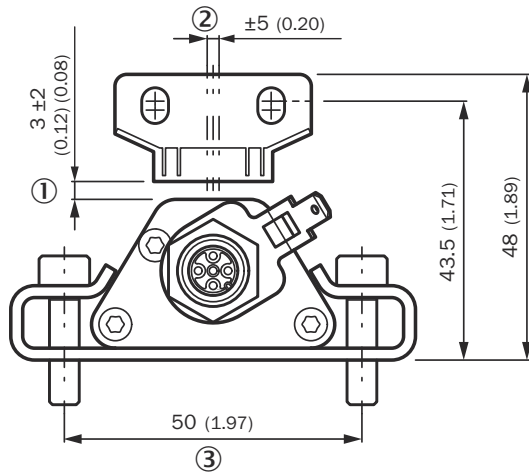
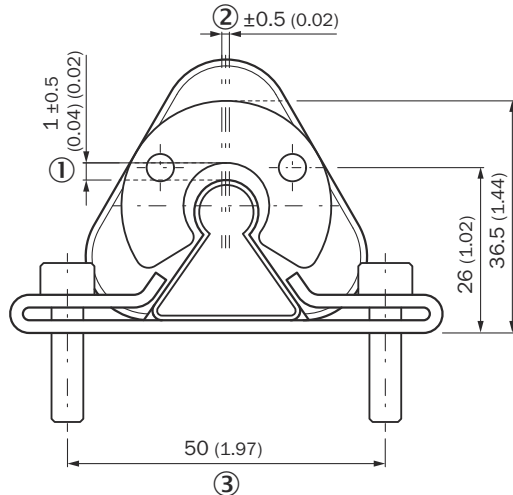
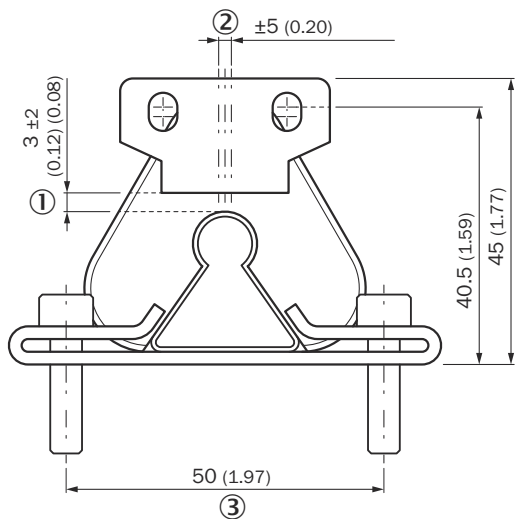

Figure 5: Dimensions and distances for MAG-B-180-xx position magnet on DAX® Low Profile
Figure 6: Dimensions and distances for MAG-B-180-xx position magnet on DAX® Slider
Figure 7: Dimensions and distances for MAG-B-180-xx position magnet on DAX® Slider
- ▶ The following values must be observed for the nominal distance ① between the position magnets and linear encoder and for the center offset ② (see figure 5, page 10, see figure 6, page 10 and see figure 7, page 11):